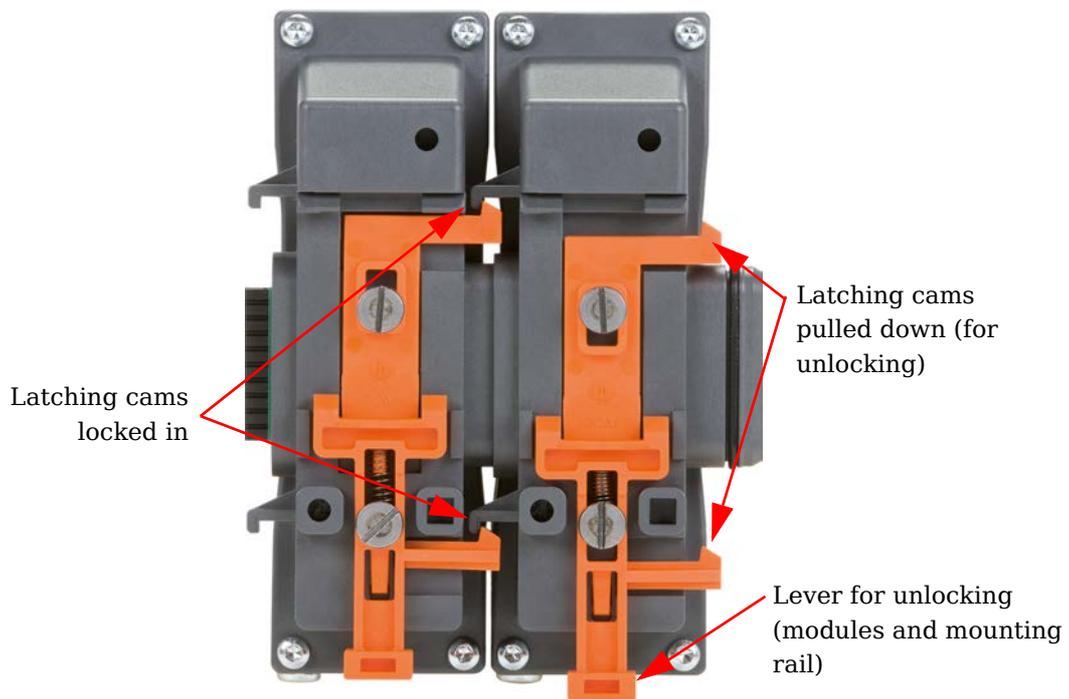

Fig. 5-2 Coupled modules (illustrated without mounting rail).
2. Pull the orange lever downwards on the lower end of the modules (on the mounting rail, Fig. 5-2) and push the module to the right.